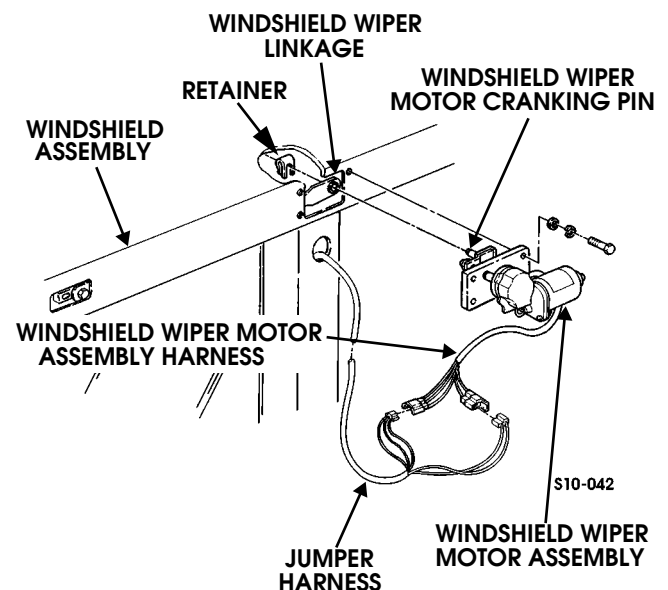

Figure 10-111: Windshield Wiper Motor Assembly Replacement
2. Disconnect windshield wiper motor assembly harness from jumper harness (Figure 10-111).
1. Lubricate windshield wiper motor cranking pin and secure windshield wiper linkage to windshield wiper motor cranking pin with retainer (Figure 10-111).